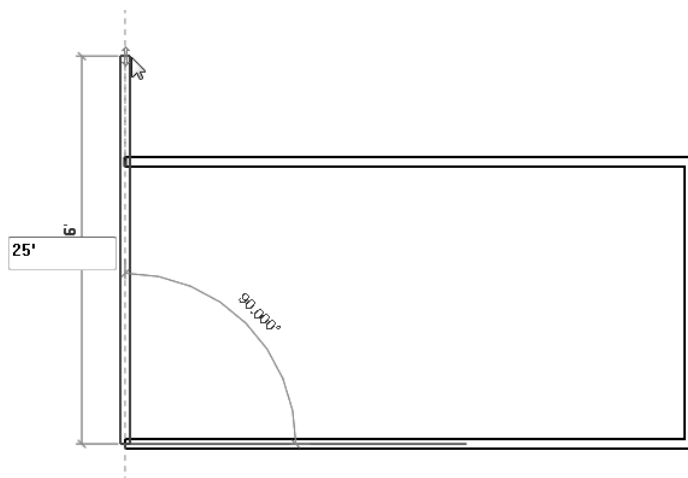

Figure 3-34 *Sketching the fourth exterior wall segment*
6. As you have enabled the **Chain** option, therefore the next wall segment automatically starts from the last specified point. Hold the SHIFT key and move the cursor vertically upward. Enter **25'0"**, as shown in Figure 3-34, and then press ENTER to create a vertical wall segment. The fourth wall segment is created.